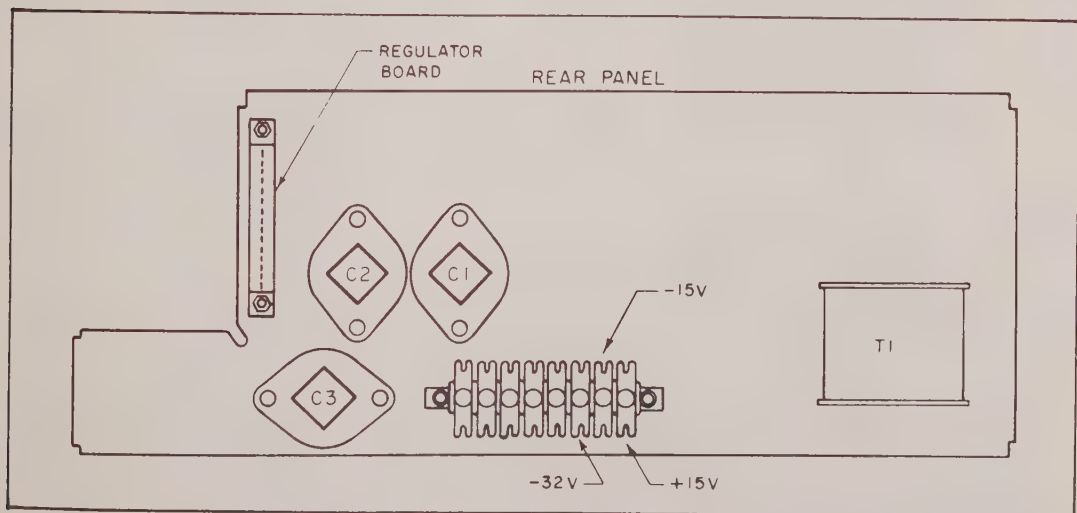

Fig. 4-2. Location of Power Supply Test Points
Power supply test points are located on the bottom of the chassis along a horizontal terminal strip (Figure 4-2). Wires from the three terminals are color coded as follows: RED +15V, GREEN -15V, YELLOW -32V.
- 2) Use Figure 4-2 to locate power supply test points.